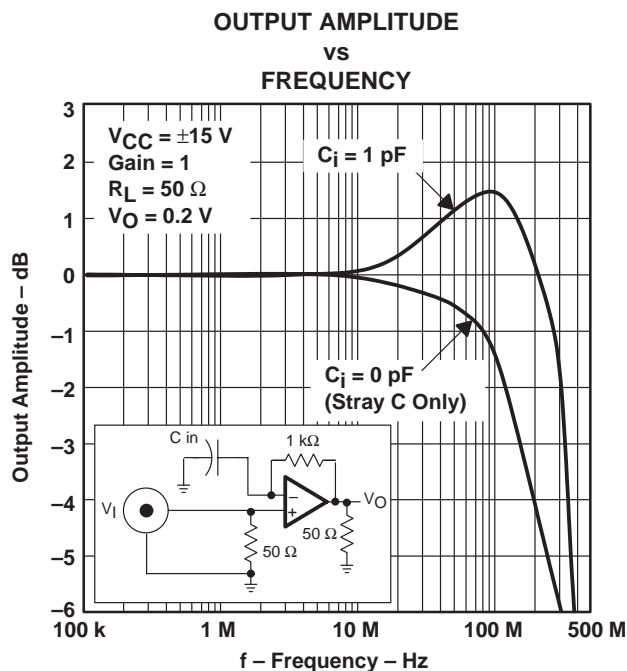
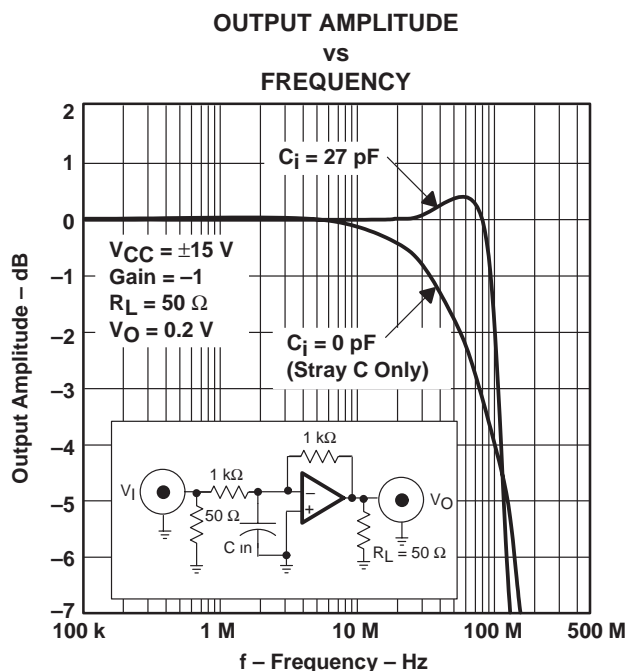

Figure 56
Figure 57
- Input stray capacitance – To minimize potential problems with amplifier oscillation, the capacitance at the inverting input of the amplifiers must be kept to a minimum. To do this, PCB trace runs to the inverting input must be as short as possible, the ground plane must be removed under any etch runs connected to the inverting input, and external components should be placed as close as possible to the inverting input. This is especially true in the noninverting configuration. An example of this can be seen in Figure 56, which shows what happens when a 1.0 pF capacitor is added to the inverting input terminal in the noninverting configuration. The bandwidth increases dramatically at the expense of peaking. This is because some of the error current is flowing through the stray capacitor instead of the inverting node of the amplifier. While the device is in the inverting mode, stray capacitance at the inverting input has a minimal effect. This is because the inverting node is at a virtual ground and the voltage does not fluctuate nearly as much as in the noninverting configuration. This can be seen in Figure 57, where a 27-pF capacitor adds only 0.5 dB of peaking. In general, as the gain of the system increases, the output peaking due to this capacitor decreases. While this can initially appear to be a faster and better system, overshoot and ringing are more likely to occur under fast transient conditions. So, proper analysis of adding a capacitor to the inverting input node should always be performed for stable operation.